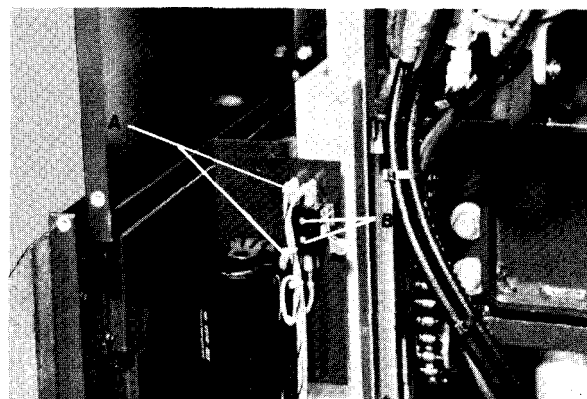

Fig. 37
- 5) Remove wires from limit switch, Item A, Fig. 37.
- 6) Remove (2) # 4 slotted head screws and nuts, Item B, Fig. 37. The switch and actuator can then be removed.
- 8) Place switch into actuator as shown in Fig. 37.
- 9) Insert (2) # 4 slotted head screws into switch and actuator and through switch bracket. Screw # 4 nuts on back of screws and tighten.
- 15) Loosen (2) # 4 slotted head screw (Item B, Fig. 37) and slide switch toward the center of the table until motor stops running. Then retighten screws.